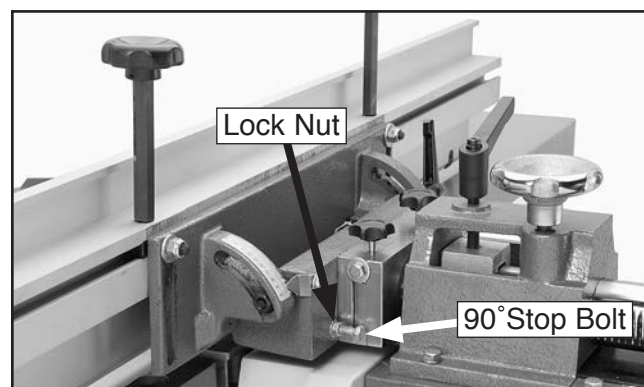

Figure 82. Adjusting fence to 90°.
1. Loosen the lock nut on the 90° fence stop bolt shown in **Figure 82**, and loosen the fence tilt lock.